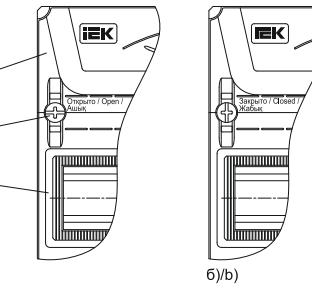

Рисунок 2–Оперативная панель / Figure 2 – Faceplate / 2-сурет – Жедел панель
The faceplate is prefabricated, consisting of end (1) and linear (2) modules and fixing clips (3) (figure 2). The linear modules have windows for the output of modular electrical equipment; a blanking plate is installed in the lower window (only for enclosures with two or more windows).